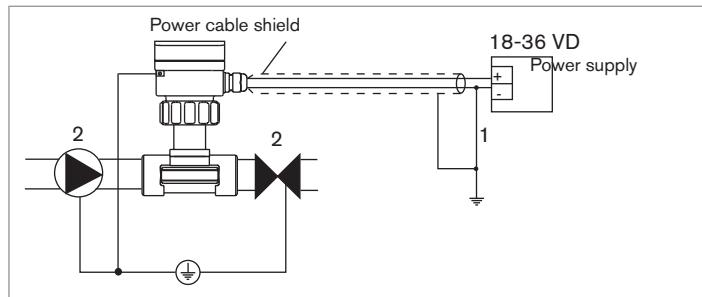

Fig. 14 : Earthing the transmitter
- Connect the negative power supply terminal to the earth to remove the effects of common mode currents. If this connection cannot be made directly, a 100 nF/50 V capacitor can be fitted between the negative power supply terminal and the earth (reference 1 *Fig. 14*).
- connect the various metal devices to the same earth (valve, pump, etc.) located close to the transmitter (reference 2 *Fig. 14*).
- insert the metal parts (not provided) inside the plastic pipes, upstream and downstream of the transmitter (reference 2 *Fig. 14*).
- connect these metal parts to the same earth (*Fig. 14*).